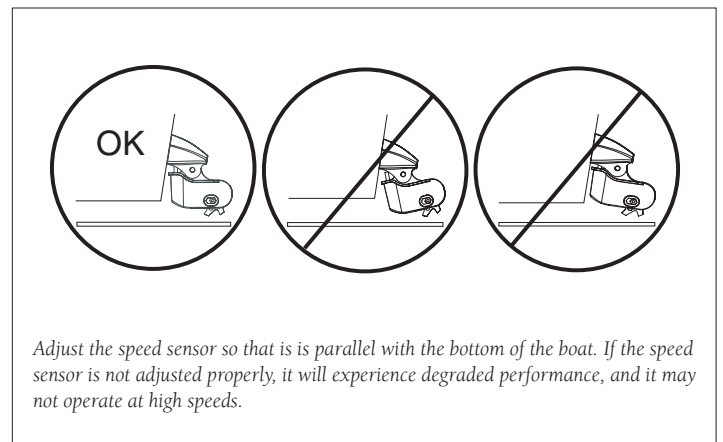

Figure 4
5. Attach the speed sensor assembly to the transom using the M5  $\times$  30 mm screws. Adjust the speed sensor to extend beyond the bottom of the transom approximately  $\frac{1}{8}$  in. (3 mm) on fiberglass hulls or  $\frac{3}{8}$  in. (10 mm) on aluminum hulls. Examine the alignment of the speed sensor; it should be aligned parallel to the water (see Figure 4).
3. Ensure that the sensor is parallel with the bottom of the boat (see Figure 4). High-speed operation will be severely degraded if the sensor is not properly aligned.